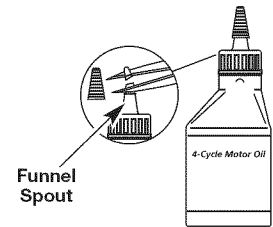

Fig. 6
The unit is supplied with one 3.04 fl.oz. (90 ml) bottle of SAE 30 SF, SG, SH oil (Fig. 6).
1. Unscrew the top of the bottle of oil and remove the paper seal covering the opening. Replace the top. Next, cut the tip off the funnel spout (Fig. 6).